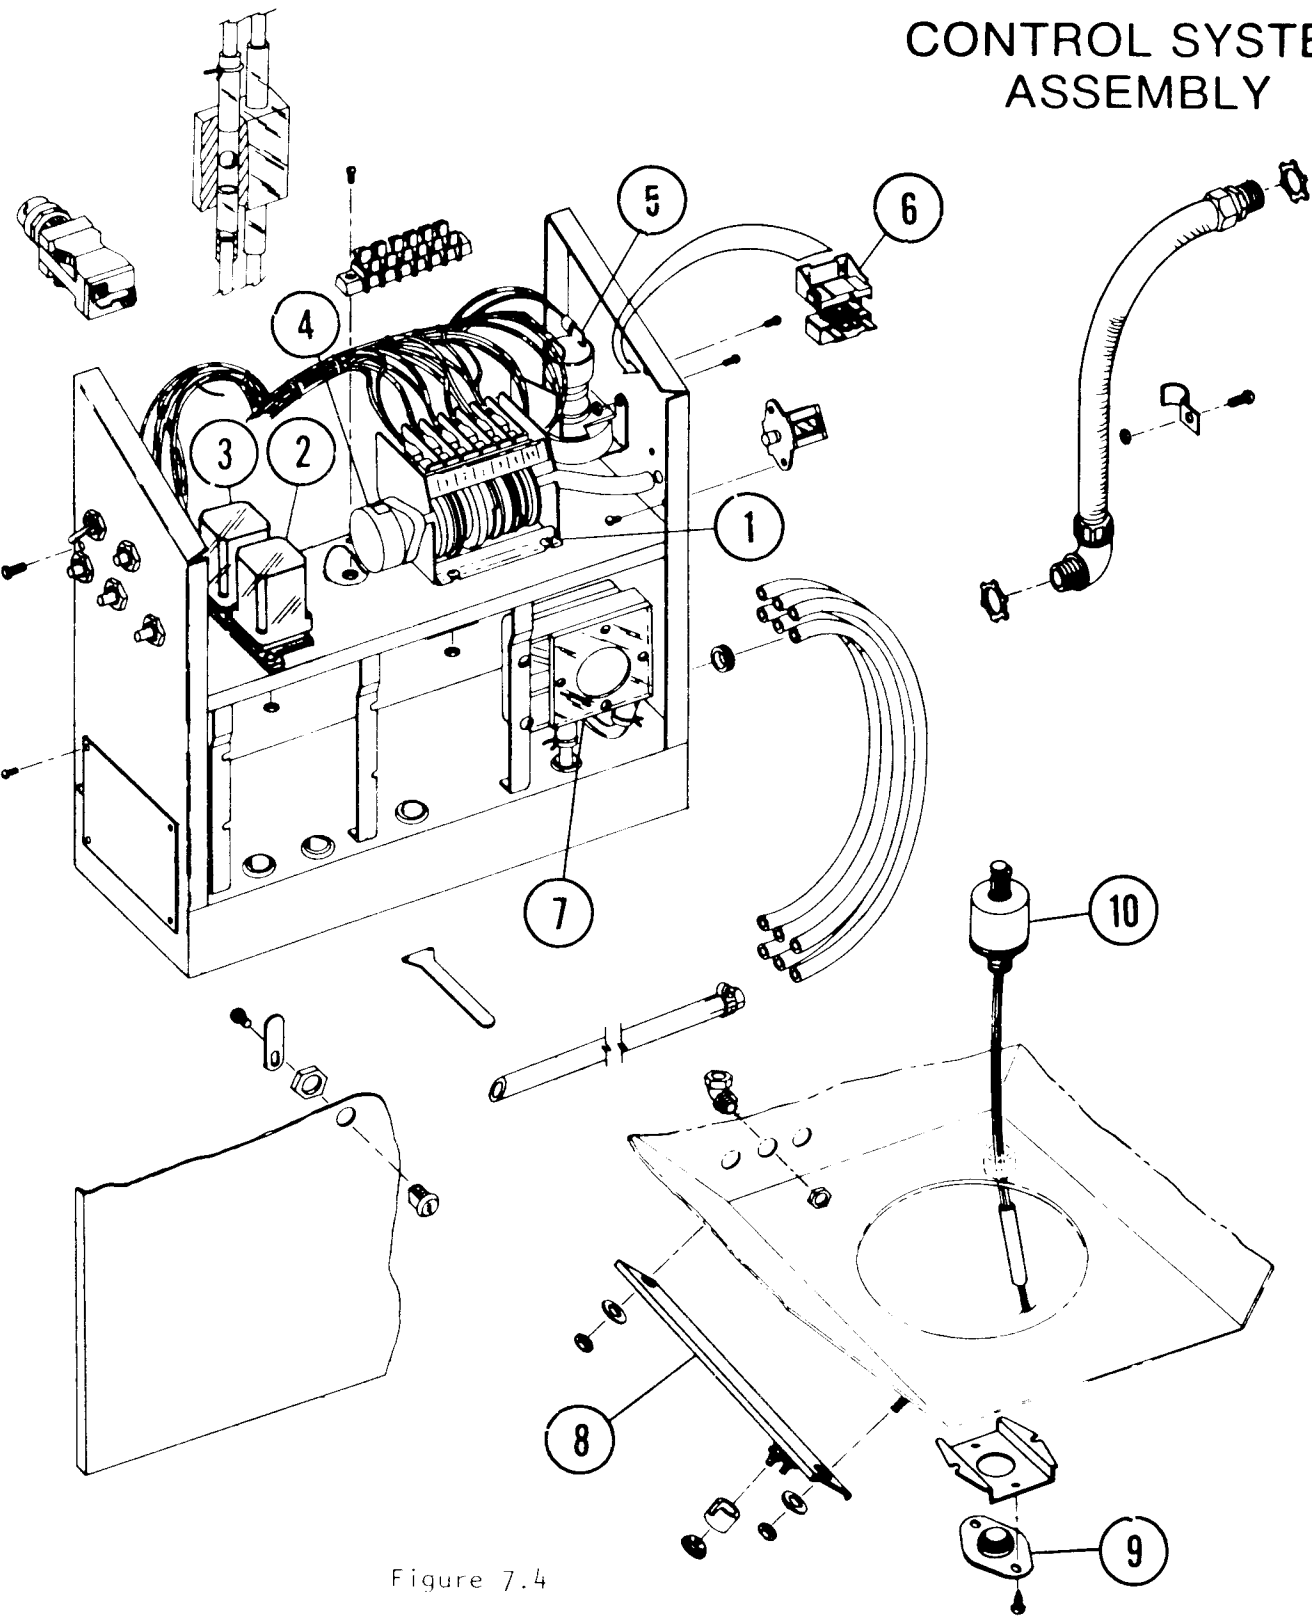

Figure 7.4
7.4.0 CONTROL SYSTEM (See Figure 7.4.)
7.4.11 Cleaning Flow Indicator (11) (See Figure 7.4)